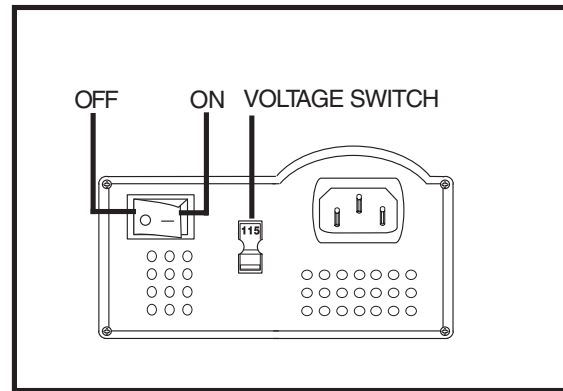

Figure 8. Charger On/Off and Voltage Switches
The off-board charger supplied with your PMV is equipped with a 115/230 voltage switch. Confirm that this switch is in the proper position for your locality. If you are not sure what the voltage is in your country, contact your local electricity provider before inserting the charger power cord plug into your electrical outlet. If the setting is incorrect, the charger will not function properly. Slide the voltage switch to the prescribed position. See figure 8.
6. Turn the charger on. **See figure 8.**